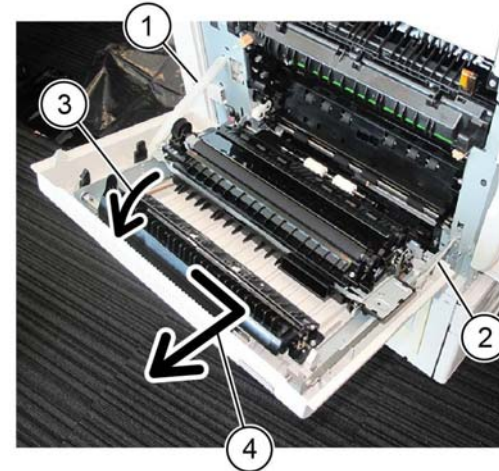

Figure 4 LH cover removal
5. Remove the L/H cover, **Figure 4**:
- Rotate by 90 degrees, then disconnect the rear support (1).
- Rotate by 90 degrees, then disconnect the front support (2).
- Hold the L/H cover (3) open at 90 degrees.
- Remove the L/H cover in the direction of the arrow (4).